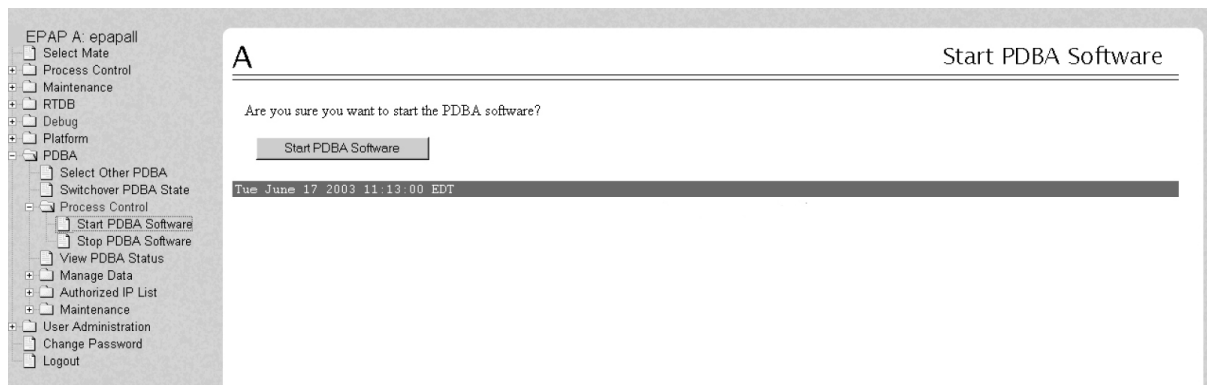

Figure 35: Start PDDB
4. Attempt to start the PDBA by selecting PDBA> Process Control > Start PDBA Software. The window shown in Figure 35: Start PDBA is displayed.